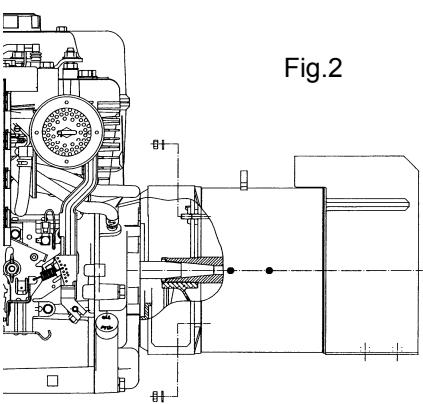

Fig.2
-) lock the alternator into the cover by fixing the four M8 nuts onto the bolts, applying a tightening torque of  $16\pm7\%$  Nm (figure 2)